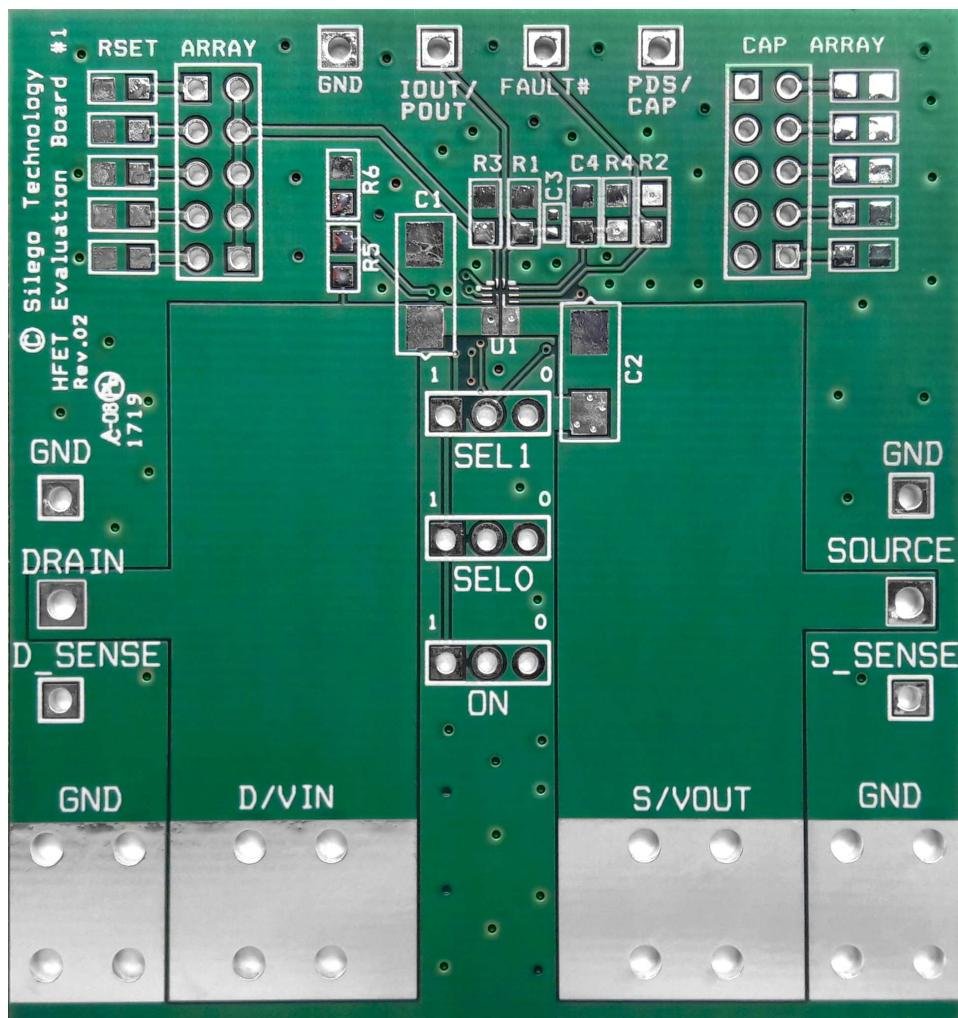

Figure 9. SLG59H1009V Evaluation Board
1. Since the VIN and VOUT pins dissipate most of the heat generated during high-load current operation, it is highly recommended to make power traces as short, direct, and wide as possible. A good practice is to make power traces with an absolute minimum widths of 15 mils (0.381 mm) per Ampere. A representative layout, shown in Figure 9, illustrates proper techniques for heat to transfer as efficiently as possible out of the device;
A High Voltage GreenFET Evaluation Board for SLG59H1009V is designed according to the statements above and is illustrated on Figure 9. Please note that evaluation board has D_Sense and S_Sense pads. They cannot carry high currents and dedicated only for RDS_{ON} evaluation.